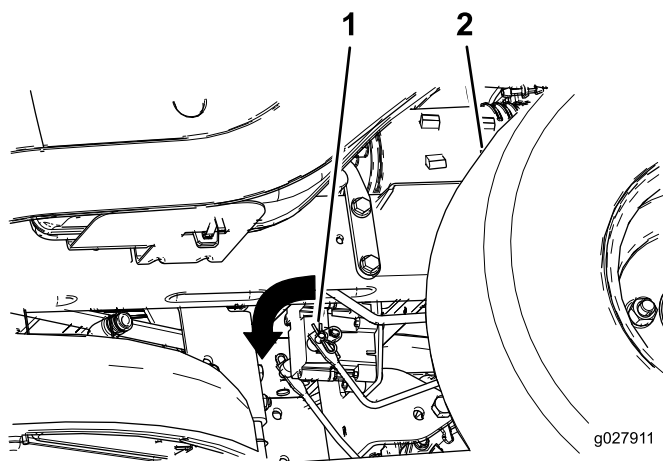

Figure 51
2. Locate the shaft on the electric brake where the brake-link arms are connected (Figure 51).